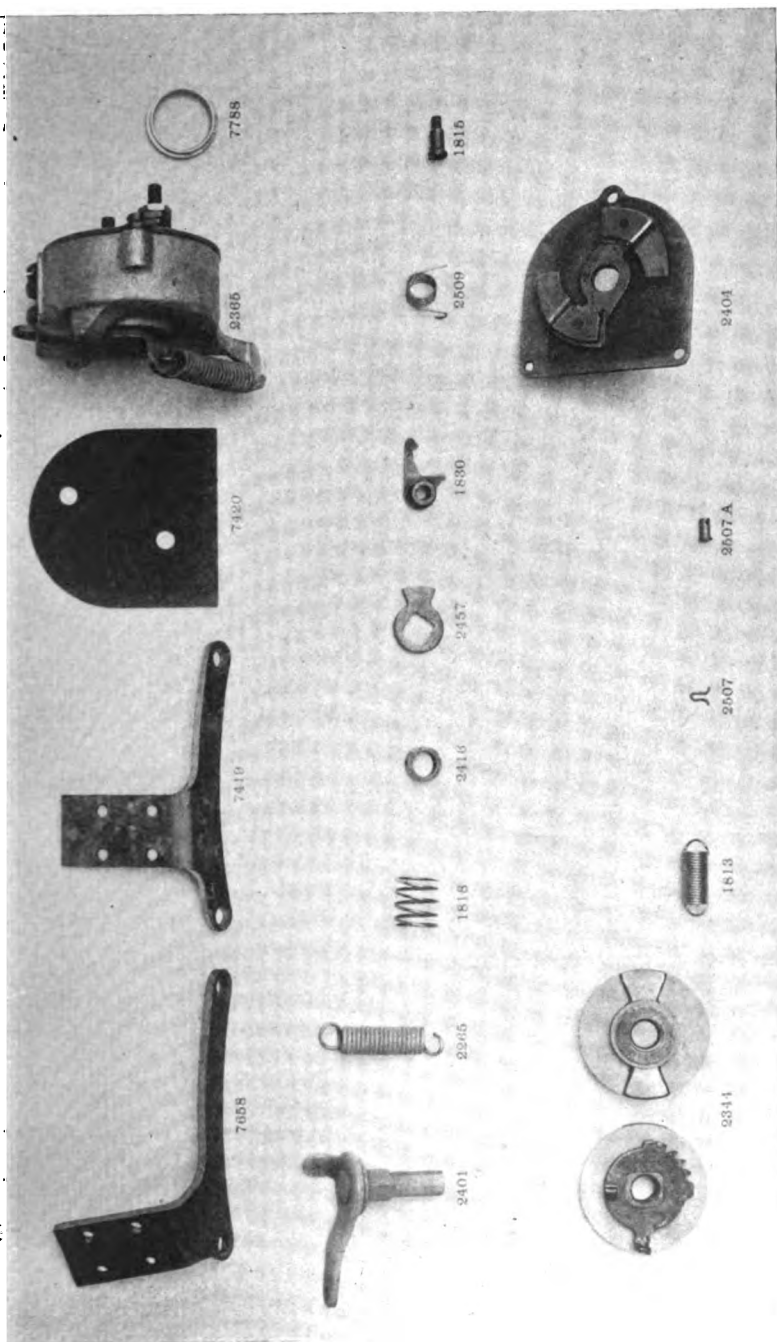
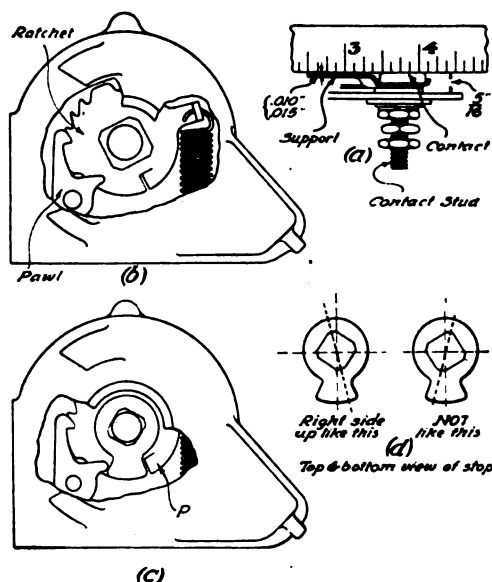

Fig. 306. View of Essential Parts of North East Starting Switch
Fig. 307. Assembly of Starting Switch
Starting Switch. When its operation indicates that the contactor blades have worn, the starting switch should be dismantled, and, if necessary, new blades should be inserted. To disassemble the switch, proceed as follows: (1) Remove the spring 2265, Fig. 306, on the switch case 2365; (2) remove the cotter pin from the collar 2416; (3) withdraw the shaft and lever 2401, together with the spring 1818; (4) remove the three screws which hold the cover 2404 in place,
The upper surfaces of the supports must be .010 to .015 inch lower than the contact surface of the block. Care should be taken that the upper surface of the contact blocks are $\frac{1}{16}$ inch above the inner surface of the cover. A small steel straightedge laid upon the face of the contact block and extended over the supports, as shown in Fig. 307 (a), will serve as a means of checking these dimensions.
Before placing in service, the contact surfaces must be carefully cleaned and lubricated with a very small quantity of vaseline. To reassemble the switch: (1) Connect the spring 1813, Fig. 306, to the arm of the ratchet; (2) place the contactor member 2344 in the switch case in such a position that the ratchet will lie against the pawl 1830; and (3) hold the switch case in the left hand, lever side up, and insert the right forefinger through the hole in the switch case and introduce the pawl into the first notch of the ratchet, Fig. 307 (b); (4) hold these parts carefully in position and replace the cover 2404, Fig. 306, fastening it to the switch case by means of the three screws; (5) insert the stop through the hole in the switch case and replace it upon the ratchet plate in such a position that the elongated portion of the stop will lie between the raised projection which is found on the ratchet plate and the end of the short lever on the pawl as shown in Fig. 307 (c). It is very important that the stop be placed in the switch right side up, Fig. 307 (d) illustrating the proper method of doing this. (6) Place the spring on the shaft and replace the shaft in the switch, taking care while entering the shaft not to disturb the arrangement of any of the switch parts; (7) replace the collar and the cotter pin; and (8) connect the spring 2265 with the lug on the switch case. A drop of light oil should be applied to the bearing point at each end of the switch shaft 2401.